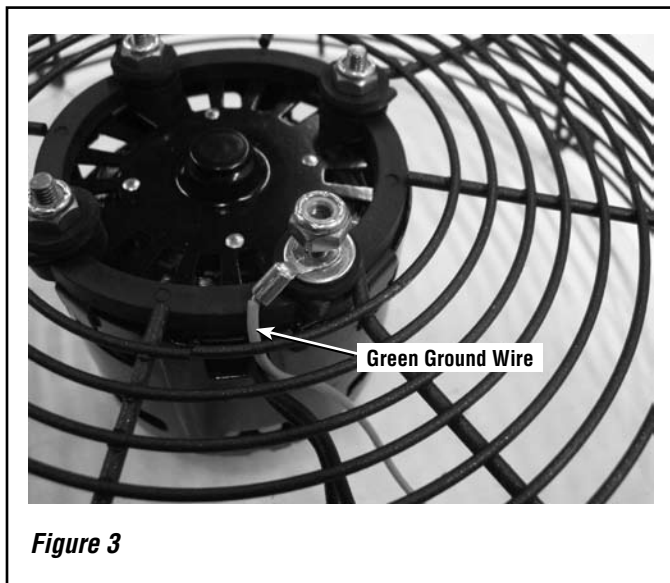

Figure 3
Step 4. Using a 3/8" end wrench, remove the ground (green) wire from the blower stud. See *Figure 3*.